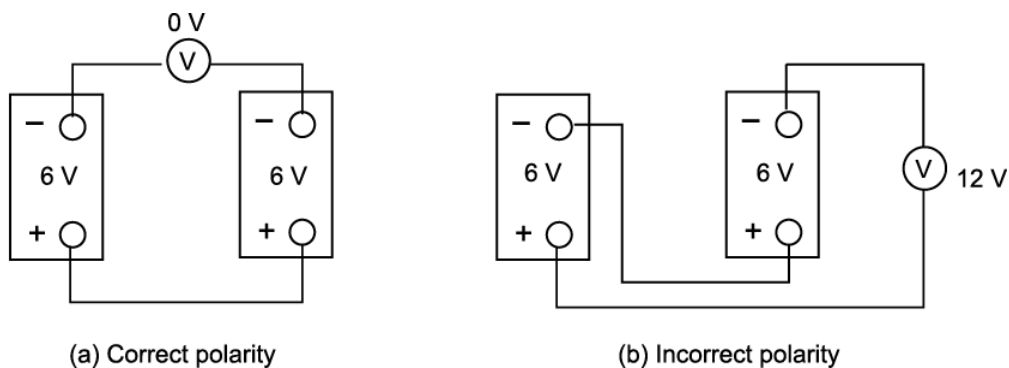

Figure 13.3.2: Polarity test (CC BY-NC-SA; BC Industry Training Authority)
2. Before connecting the paralleling jumper between the remaining two terminals, insert a voltmeter between these two points. See Figure 13.3.2